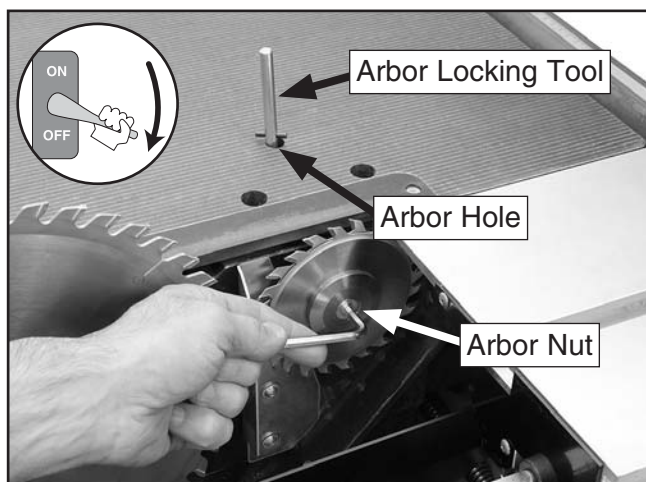

Figure 26. Removing the scoring blade.
20. Place the arbor locking tool into the arbor hole and rotate the scoring blade by hand until the tool drops into the arbor, locking it. Use the arbor wrench to verify that the scoring blade arbor nut is tight, as shown in **Figure 26**. (The scoring blade arbor nut has right-hand threads and tightens clockwise.)